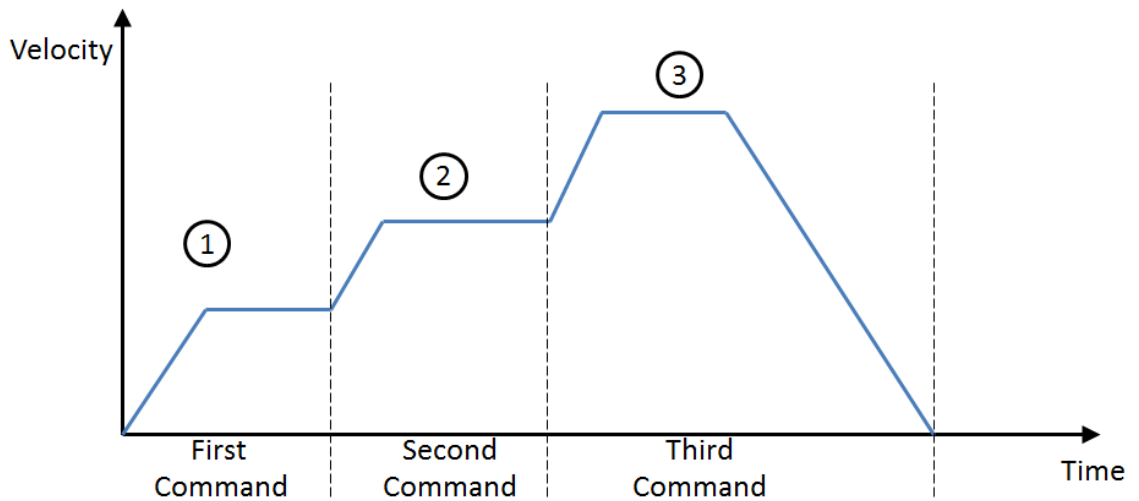
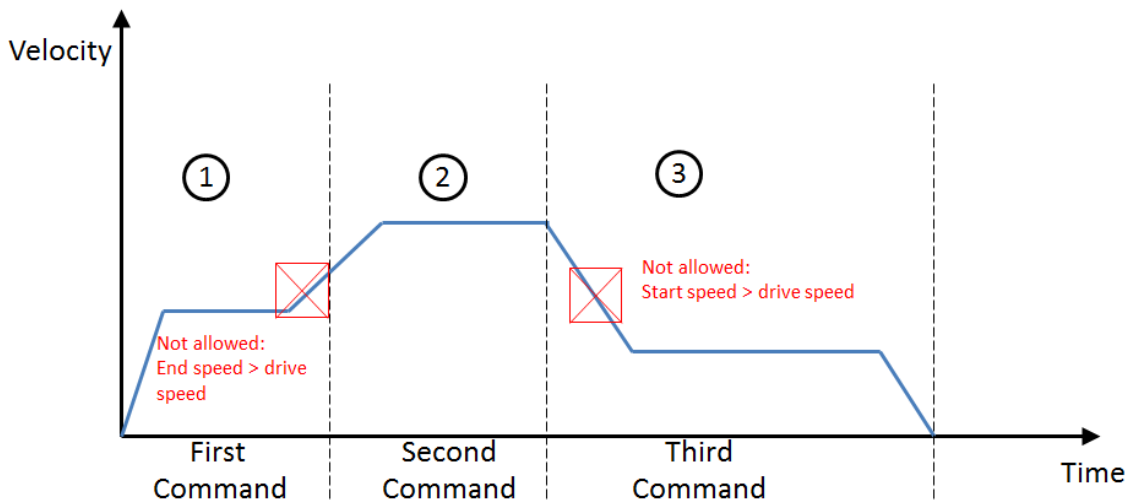

Figure 14: Velocity profile supported in continuous interpolation mode
Figure 15: Velocity profiles which are not supported
- The start and end speed of each command has to be lower or equal to the driving speed (Figure 14). Figure 15 shows velocity profiles which are currently not supported by continuous interpolation mode.